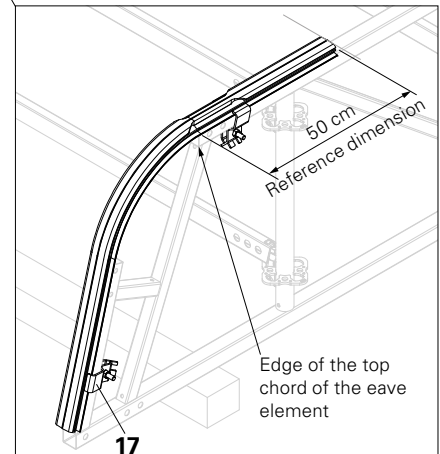

Fig. A2.01a
- Eave rail projection on the top chord of the eave element. (Fig. A2.01a)
3. Fix the keder connector (**17**) to the eave rail. (Fig. A2.01a)